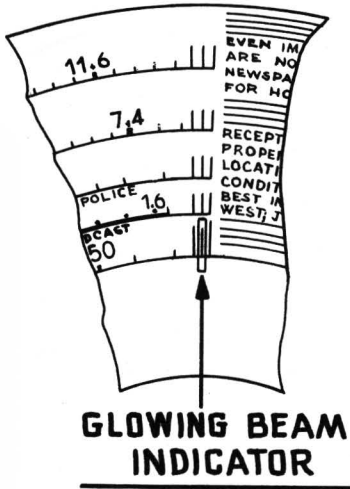

Fig. 5—Dial Calibration
**DIAL CALIBRATION**—In order to adjust this receiver correctly, the dial must be aligned to track properly with the tuning condenser. To do this rotate the tuning control to the extreme counter-clockwise position (maximum capacity). Loosen the set screw of the dial hub, then turn dial until the glowing indicator is centered on second index line of dial scale (see Fig. 5). Now tighten the dial hub set screw in this position.